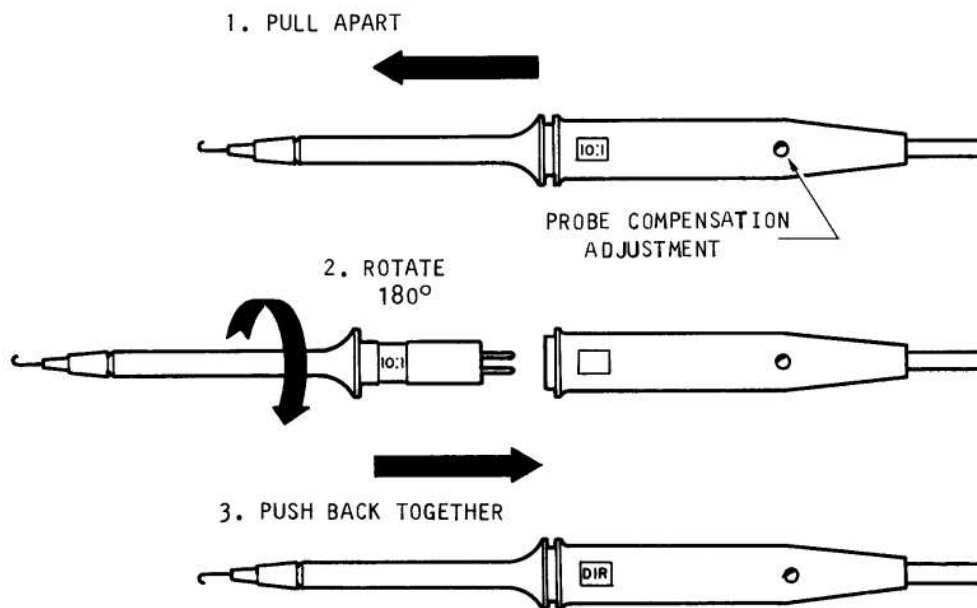

Figure 3. Changing Probe from 10:1 to DIRECT
2. For all except low amplitude waveforms, the probe **27** is set for 10:1 attenuation. For low amplitude waveforms (below 0.5 volt peak-to-peak), set the probe for DIRECT. See Figure 3 for changing the probe from 10:1 to DIRECT, or vice versa. The probe has a 10 megohm input impedance with only 18pF shunt capacitance in the 10:1 position and 1 megohm with 120pF shunt capacitance in the DIRECT position. The higher input impedance (low capacity position) should be used when possible to decrease circuit loading.